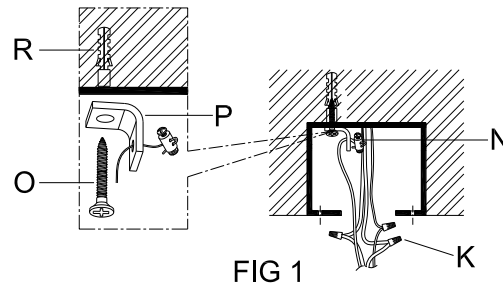

FIG. 1
- REMOVE ALL PACKING CONTENTS AND PARTS FROM THE CARTON(S) CAREFULLY.
- CONNECT LAMP BODY (F) AND CANOPY (B) WITH RODS (D1, D2, D3, D4) WHEN YOU CONNECT THE RODS, LOOSEN THE SMALL HEX SCREWS (E) FIRST THEN TIGHTEN WITH ALLEN WRENCH (T) AFTER ALL RODS ARE CONNECTED. BE SURE ALL THE HEXANGULAR SCREWS ARE TIGHT ENOUGH.
- REMOVE THE MOUNTING PLATE (A) FROM THE CANOPY (B) BY TURNING COLLAR LOOP (C) IN A COUNTER CLOCKWISE DIRECTION.
- DRILL 1 HOLE INSIDE THE JUNCTION BOX AND FASTEN THE BRACKET (P) TO WALL BY SCREWING THE STRENGTHENED SCREWS (O) INTO DRILLED HOLE AS FIG. 1.